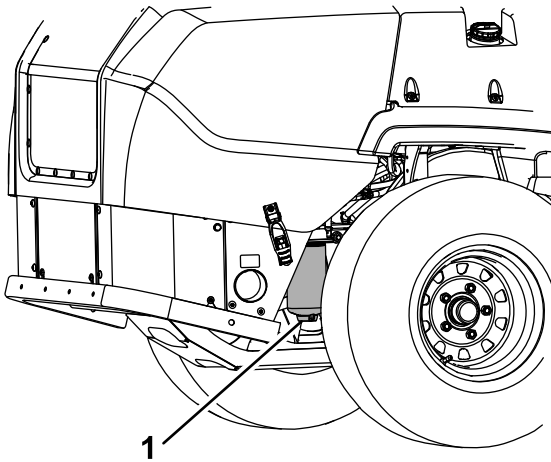

Figure 43
4. Open the drain plug on the water separator approximately 1 turn to allow water and other contaminants to drain (Figure 43).